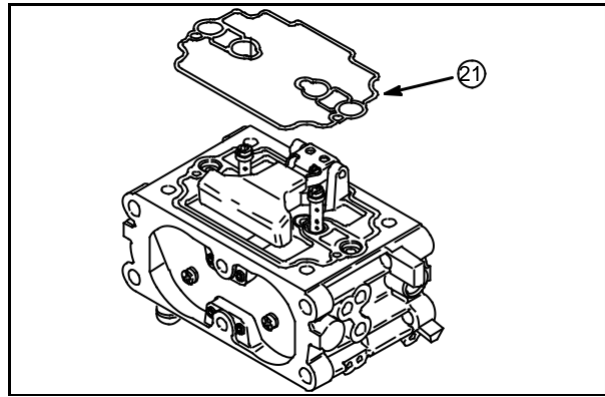

Fig. 74
Install lower body gasket (21), **Fig. 74**. Make sure gasket does not twist or kink.